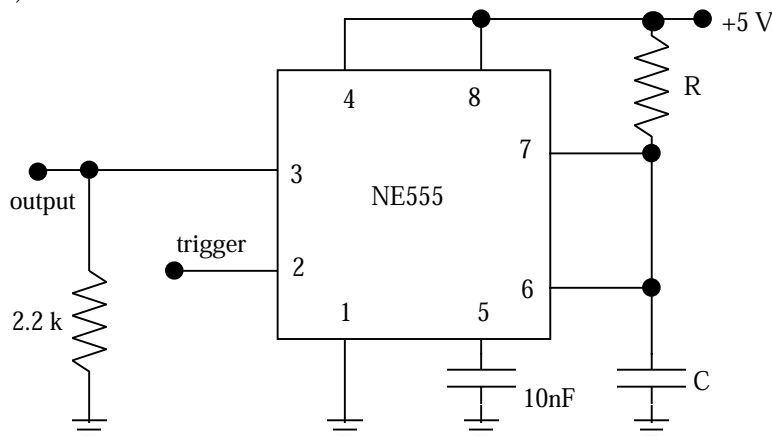

Figure 11.3 Using NE555 in the single-pulse monostable mode
11.2  Now build the circuit in Figure 11.3 using the 555 as a single-pulse generator ("monostable" mode):